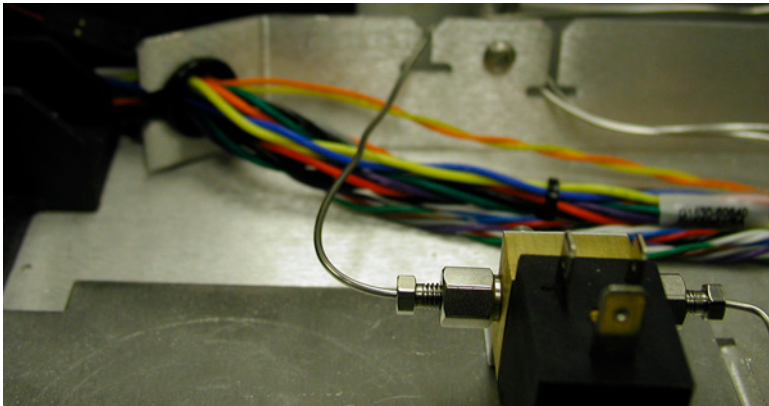

Figure 12 Auxiliary Pressure controller
- **To supply the switching gas from an Auxiliary Pressure controller (Figure 12):** Ensure that the restrictor with the brown dot (19231-60610) is installed in the Aux 3 channel outlet fitting.